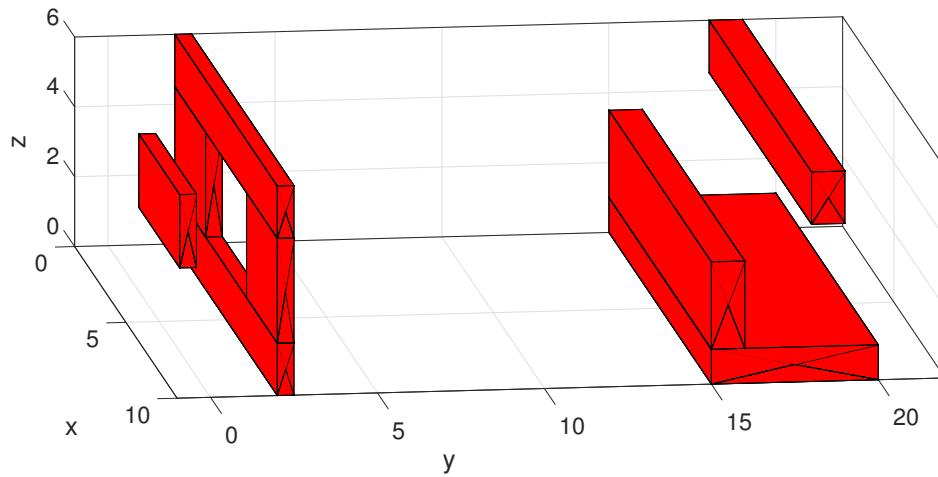

Figure 7: Complex structure that the MAV should navigate while avoiding collision.
- Design a trajectory for the MAV to start from position (5,1,0) and arrive to position (5,20,2), while avoiding obstacles in Figure 7. You can access the map by running “run.m” in Task4 folder and adding map2.txt” to loadmap line.